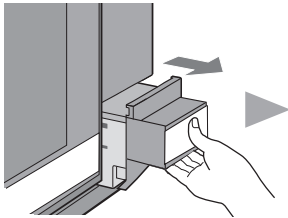

Figure 1
1. Pull the water tank towards you to remove. (Figure 1)